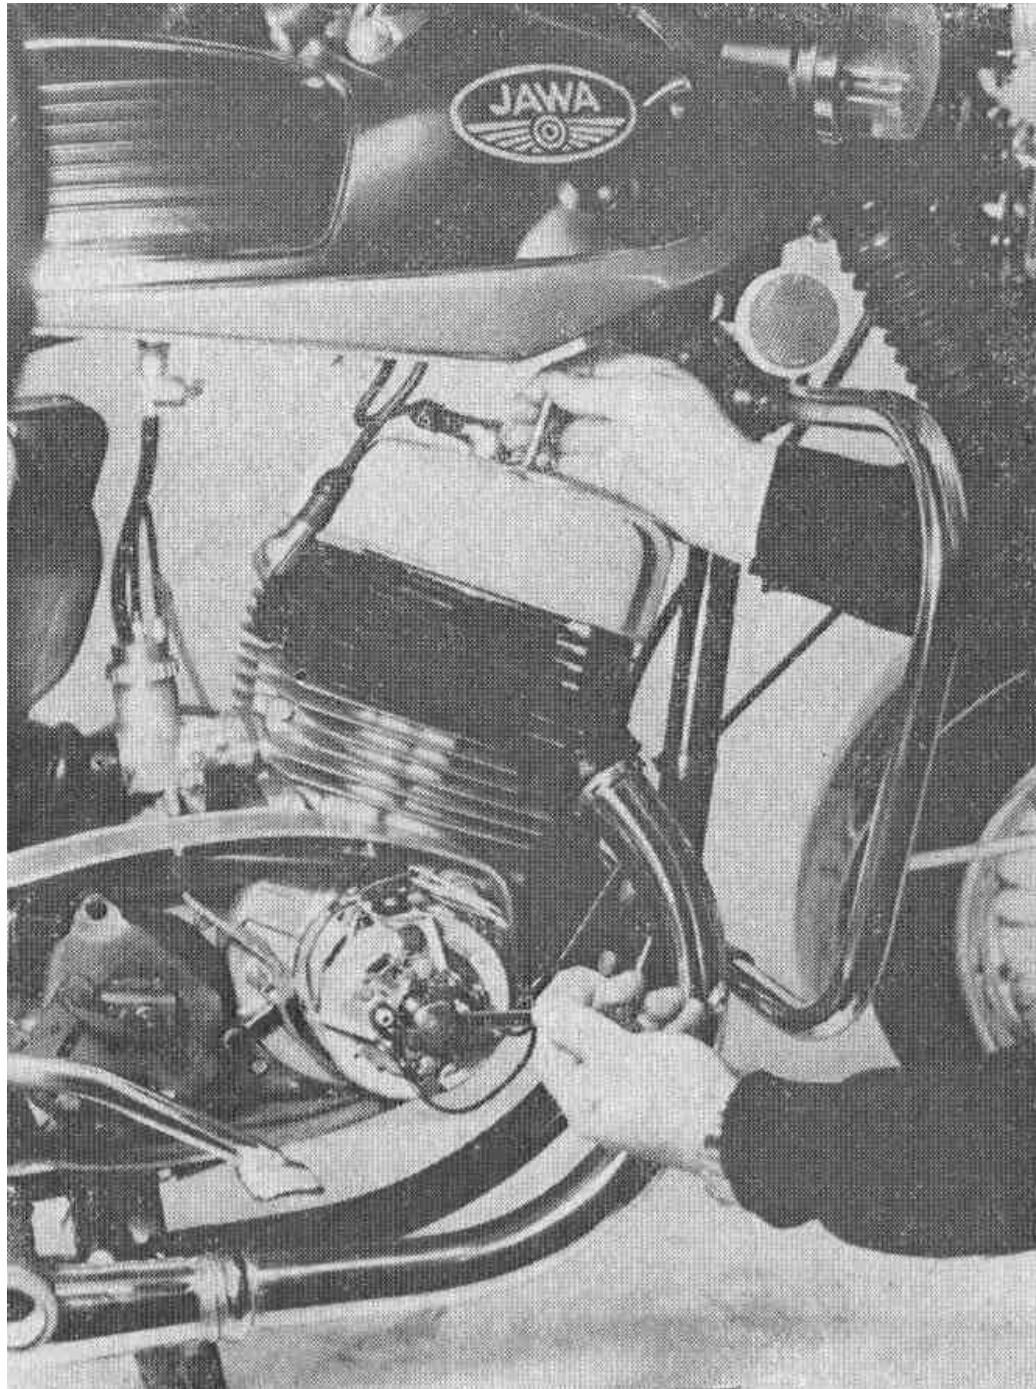

Fig. 27 – Advance adjustment
- a) Screw out the sparking plugs and insert a millimetre scale into the hole for the right-hand plug. If you have no such scale, use a suitable rod and take care that it does not slip into the cylinder when the piston is in its BDC (Fig. 27). Rotate the crankshaft using a spanner No. 10 fitted to the head of the dynamo rotor fastening